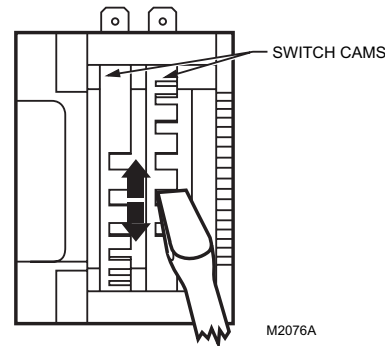

Fig. 13. Auxiliary switch cam adjustment.
4. With a screwdriver, move the cam inside the switch assembly to the appropriate position, remembering cam travel direction for switching purposes (see Fig. 13)